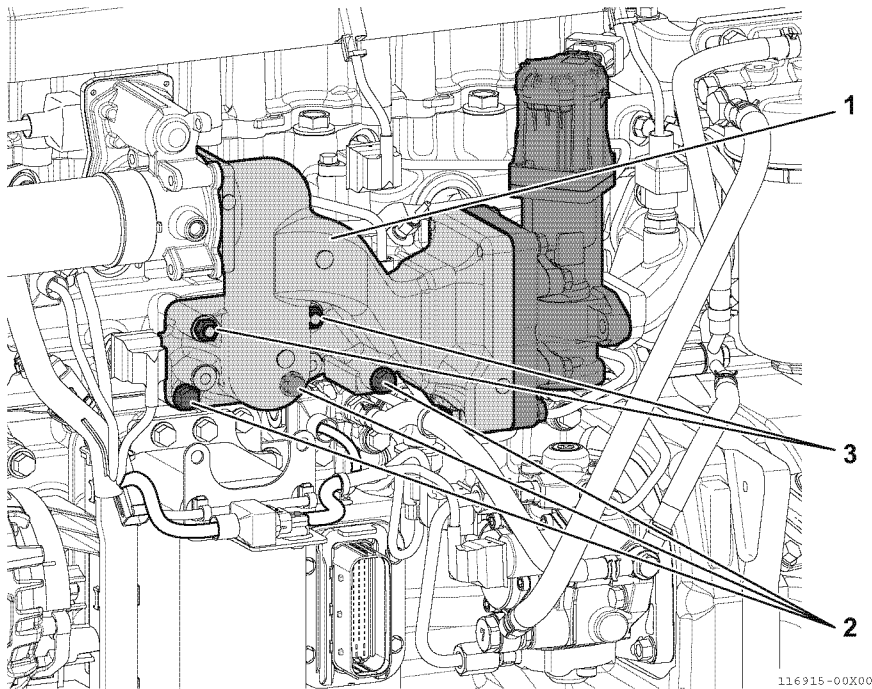

Fig.50-10
- 5 - Remove the three bolts (2, Fig.50-10) and two nuts (3, Fig.50-10) which mount the intake collector (1, Fig.50-10) and cylinder block, then remove the EGR valve together with the intake collector.